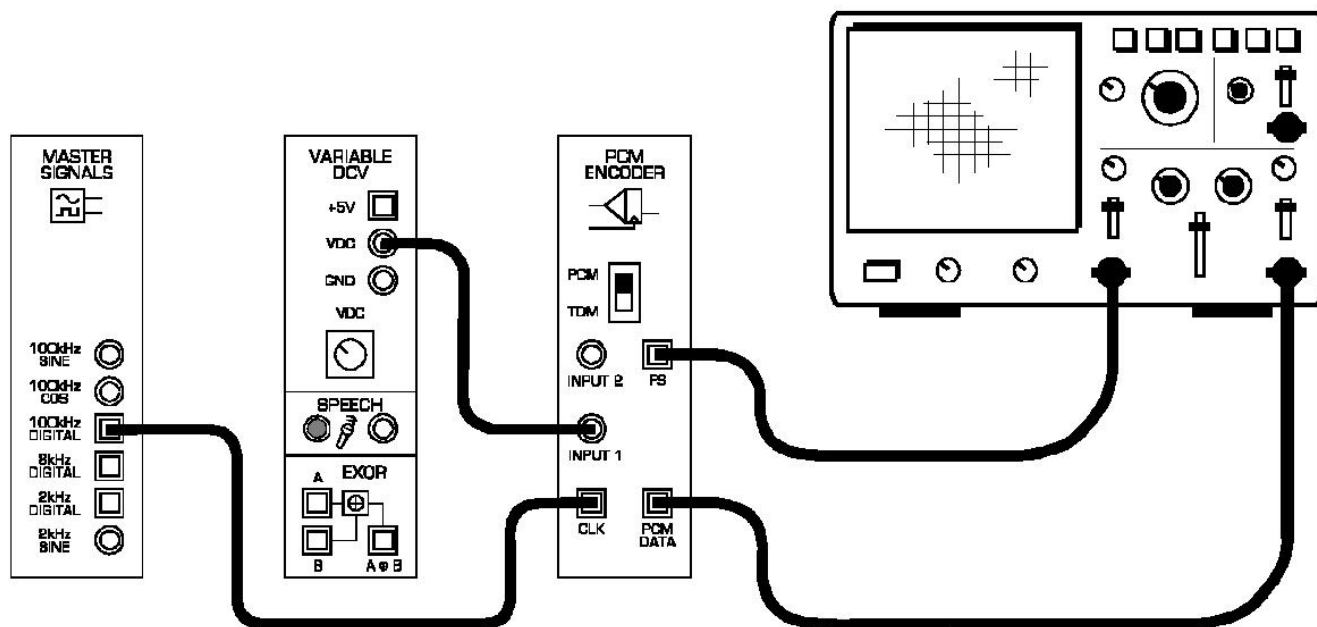

Figure 2:
4. Connect the set-up shown in Figure 2 below.